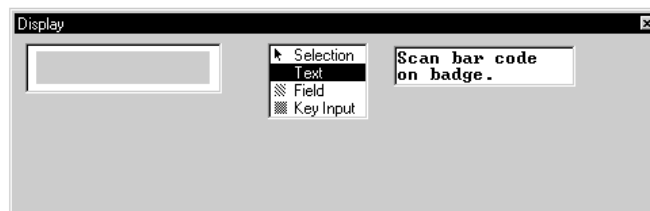

Figure 4-66 Display Window - Second Line of Text Entered
39. Type **on badge.** on the second line (Figure 4-66).